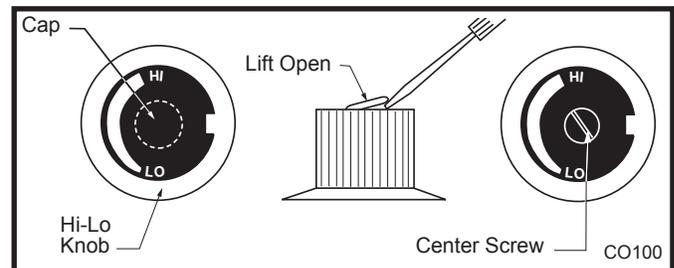

Fig. 30 Remove center screw from Hi-Lo knob.
10. Remove cap from HI/LO knob. This can be accomplished by lifting the plastic cap off the screw. (Fig. 30)
11. Remove the screw from center of HI/LO knob with small screwdriver turning counterclockwise. (Fig. 30)